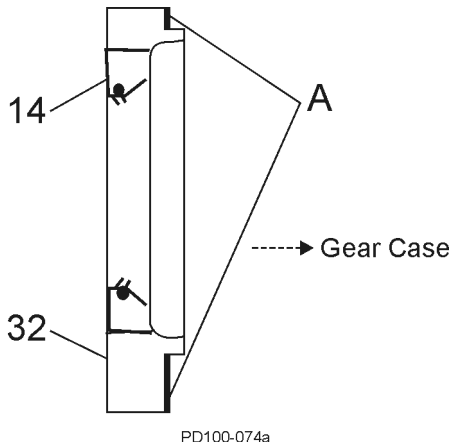

Figure 88 - Install Bearing Retainer
18. Coat the retainer flanges with silicone sealant (Figure 88, item A). (Gore-Tex® sealing tape can be used on silicone free models.) The grease seal (item 14) will be flush with the front of the bearing retainer. On 030 models, the grease seal will be against the step on the inside diameter of the retainer.
19. Install the bearing retainers (Figure 88, item 32).